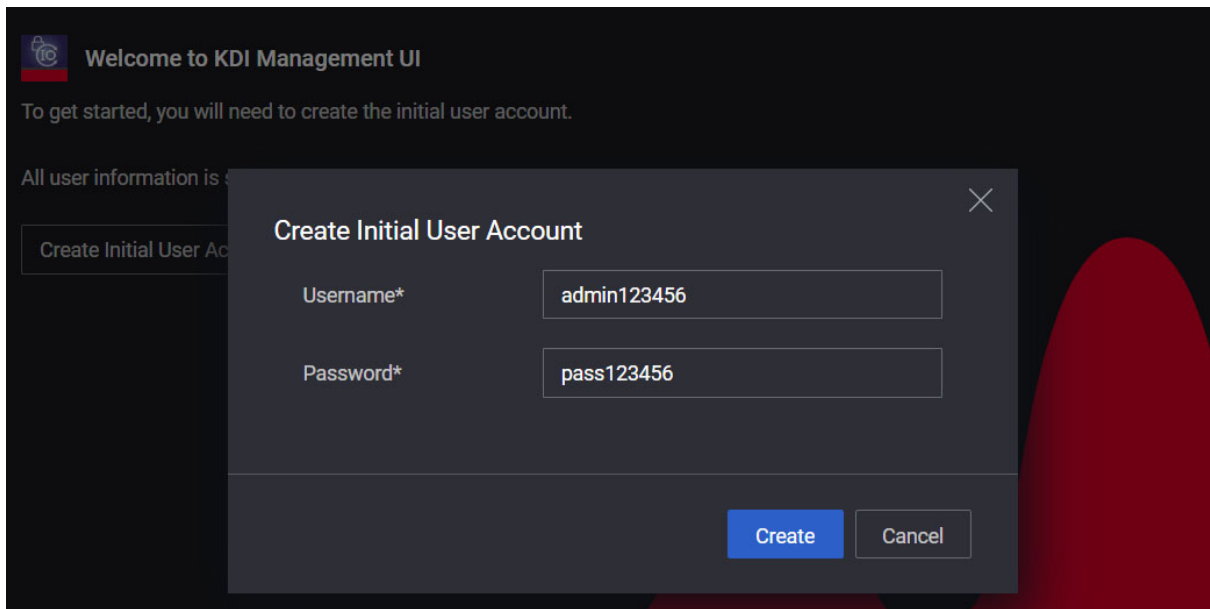

Figure 31 Creating credentials for the Admin user account
- 3 On the **Create Initial User Account** dialog box that appears, as shown in Figure 31: